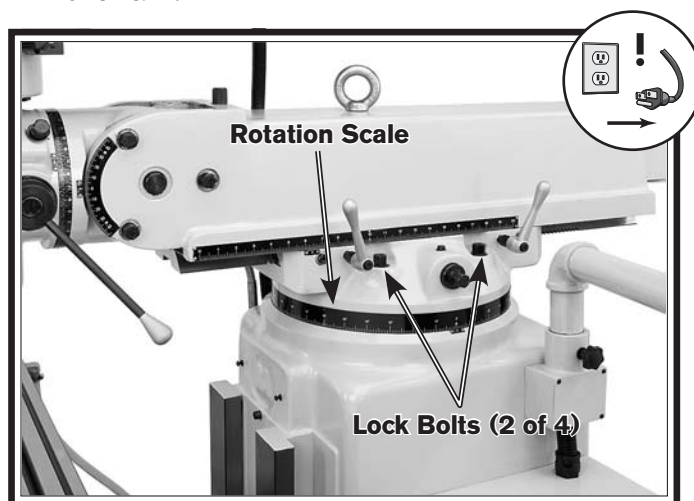

Figure 35. Ram rotating controls.
2. Loosen the four lock bolts on top of the turret (see **Figure 35**).